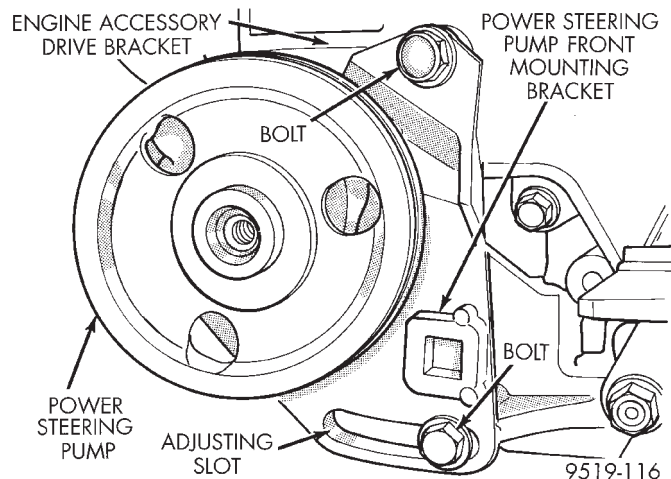

Fig. 35 Power Steering Pump Front Bracket Attachment
(10) Remove bolt at adjustment slot, (Fig. 35) attaching the power steering pump front mounting bracket to cast aluminum accessory drive bracket on engine. Then remove bolt (Fig. 35) at top of power steering front mounting bracket, attaching it to the accessory drive bracket.
(1) Install power steering pump, mounting bracket and fluid supply hose as an assembly back in vehicle, using reverse order of removal. **Be sure power steering fluid supply hose is correctly routed up to the power steering fluid reservoir when installing power steering pump.**
(2) Install power steering pump and front bracket on the cast aluminum accessory drive engine bracket (Fig. 35). Then loosely install bolt at adjusting slot and top of power steering pump front bracket (Fig. 35) mounting pump bracket to accessory drive bracket.